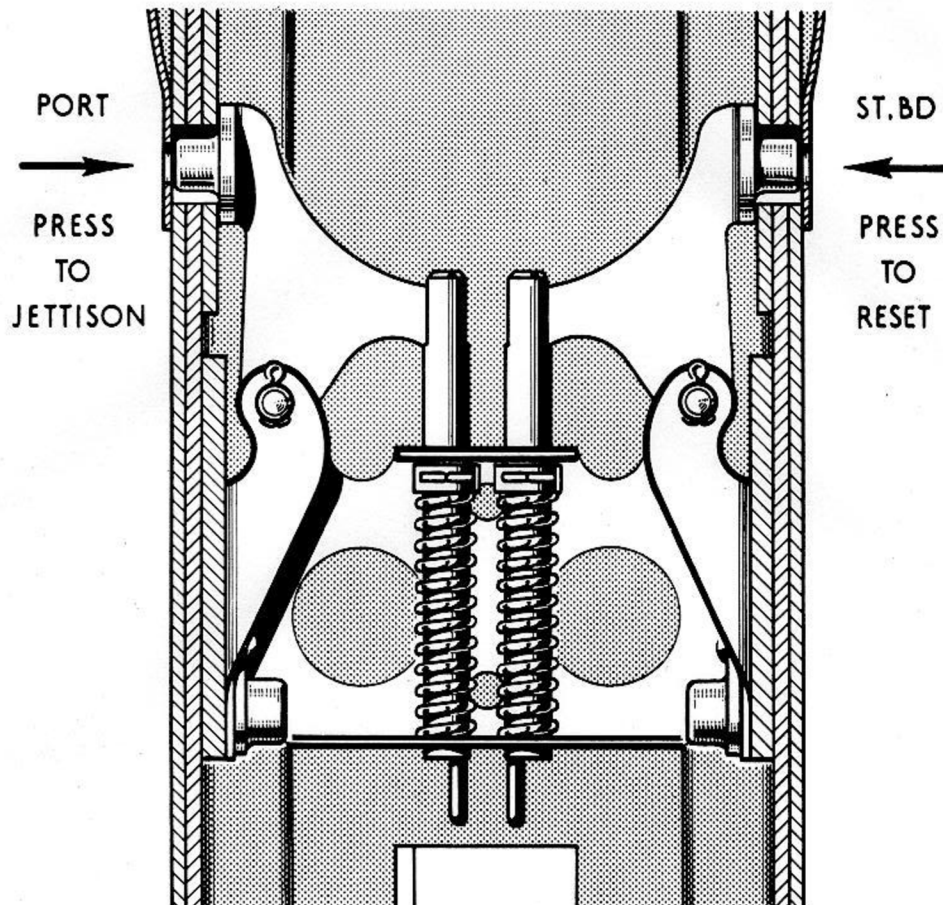

FIG. 4 JETTISON AND RESET
31. The procedure for fitting the drop fuel tanks, the sequence for which must be strictly adhered to, is illustrated in fig.3. The jettison and reset mechanism is illustrated in fig.4.
2. Remove rear door (6) on outboard side of pylon and check that the change over switch (5) is in the DOWN position.
3. If the electro-mechanical release (9) is not open, press jettison button (3) shown also on fig.4, on port side of pylon and then reset by pressing the reset button on the stbd. side of pylon. (Should the electro-mechanical release be already open, only the reset button on the stbd. side should be used.)
4. Remove the access panel in the wing top skin and attach a crutching spanner (1) HAWKER Part No. B.204233 to the release housing support (2) and lower release housing.
5. Connect plug (11) on drop tank to socket in pylon.
6. Raise the tank until the tank lug (10) is engaged by electro-mechanical release (9).
7. Now, by means of the crutching spanner (1) raise the tank until the fore and aft spigots are engaged in the holes provided in the sole plate (8) and the tank adaptors (7) are making contact with the fuel and air valves in the valve body and check that the electrical cable from the tank to the plug (11) is not trapped between the tank and the sole plate.
9. Check that the release is fully locked by means of the cocking test socket (4).
11. Replace the rear door (6).
1. Support the drop tank and press the jettison button (3) and Fig.4, on the port side of pylon.